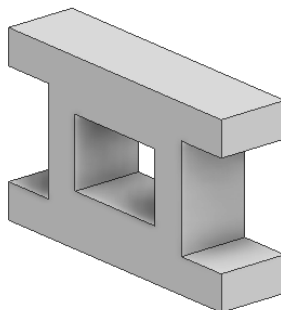

Figure 2-100 The model created on extruding the sketch
5. Choose **OK** from the dialog box to create the model and exit the **Properties-Extrusion** tool. The extruded model is shown in Figure 2-100.